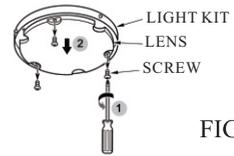

FIG. 11
1. Remove lens from LED light. (see Fig. 11)